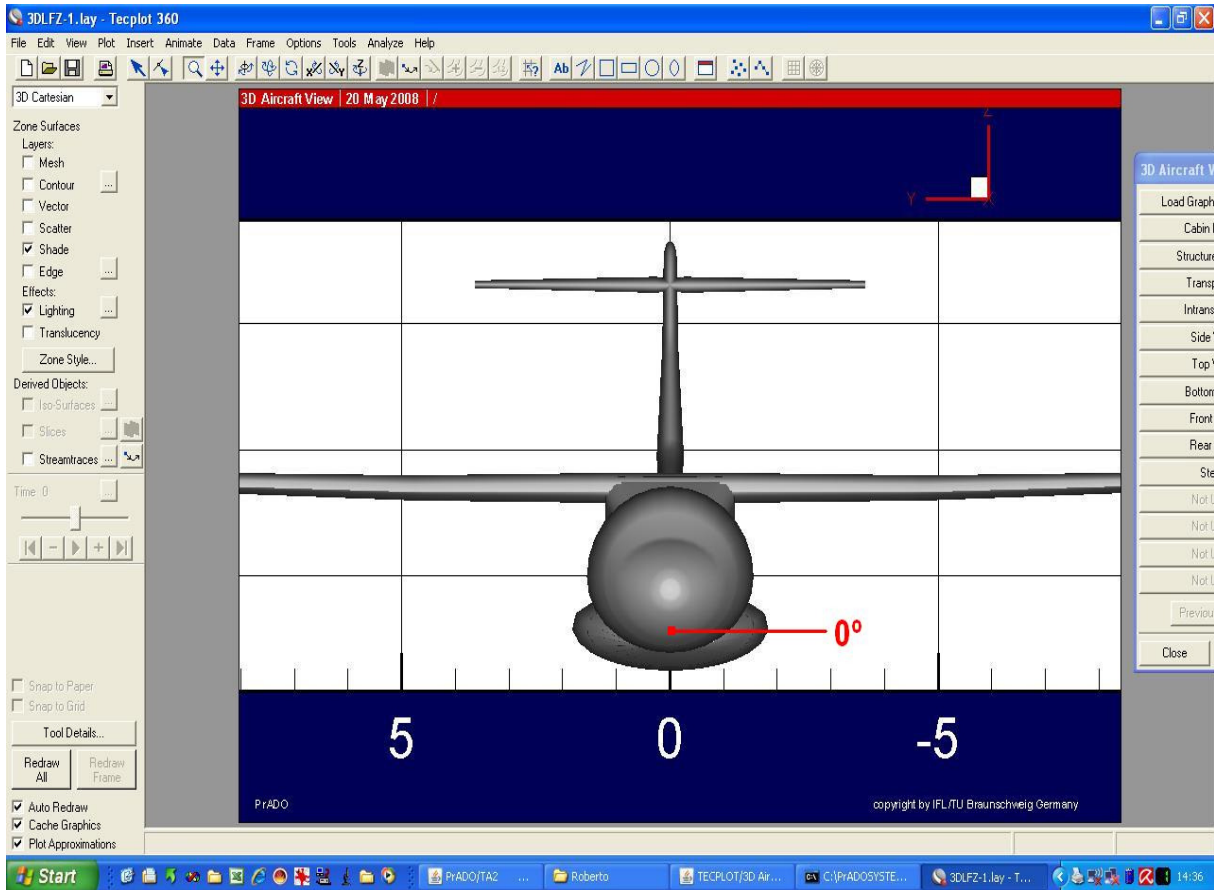
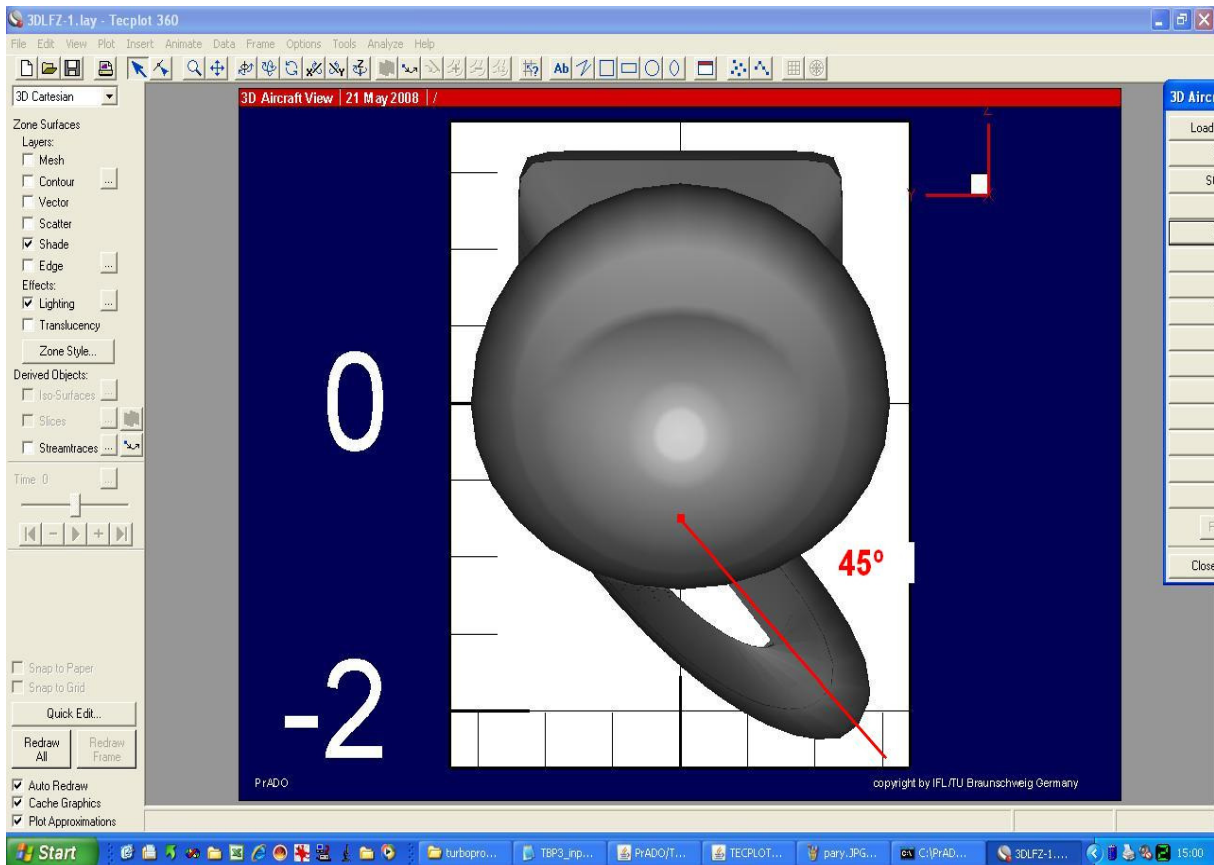

Figure 2.3 Explanation of FAIR2POSi (7). FAIR2POS4 (7) = 0°
Figure 2.4 Explanation of FAIR2POSi (7). FAIR2POS4 (7) = 45°
To understand how FAIR2POS_i (7) works, compare Figure 2.3 and Figure 2.4 (both front views). In the first one FAIR2POS₄ (7) is defined as 0° and in the second one FAIR2POS₄ (7) is defined as 45°.